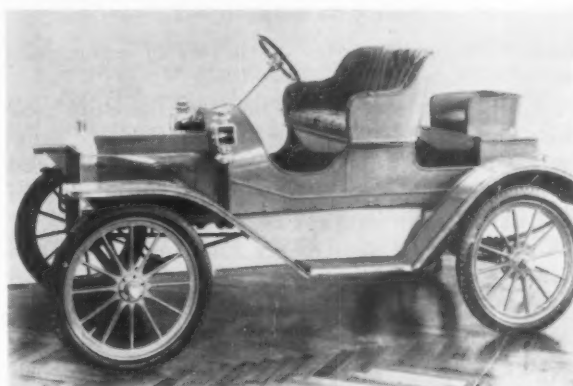

Figure 4. Fords of 1907 and 1908 had nickel plated wick holders in the kerosene lamps.
3. TEMPERATURE. Increased bath temperature causes a very marked increase in grain size, due mainly to the increased mobility of the ions, which can thus more readily make good the depletion in the ion concentration in the cathode layer of liquid. The effect of temperature on grain size is readily seen by comparison of Figures 4 and 17 illustrating copper deposits produced at temperatures of 50°C. and 20°C., other conditions being unchanged.